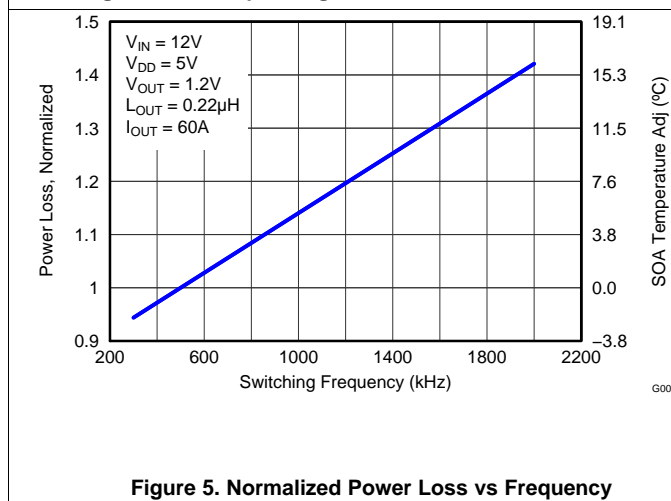

Figure 5. Normalized Power Loss vs Frequency
- Normalized Power Loss for switching frequency  $\approx$  1.08 (Figure 5)
- SOA adjustment for switching frequency  $\approx$  3.2°C (Figure 5)